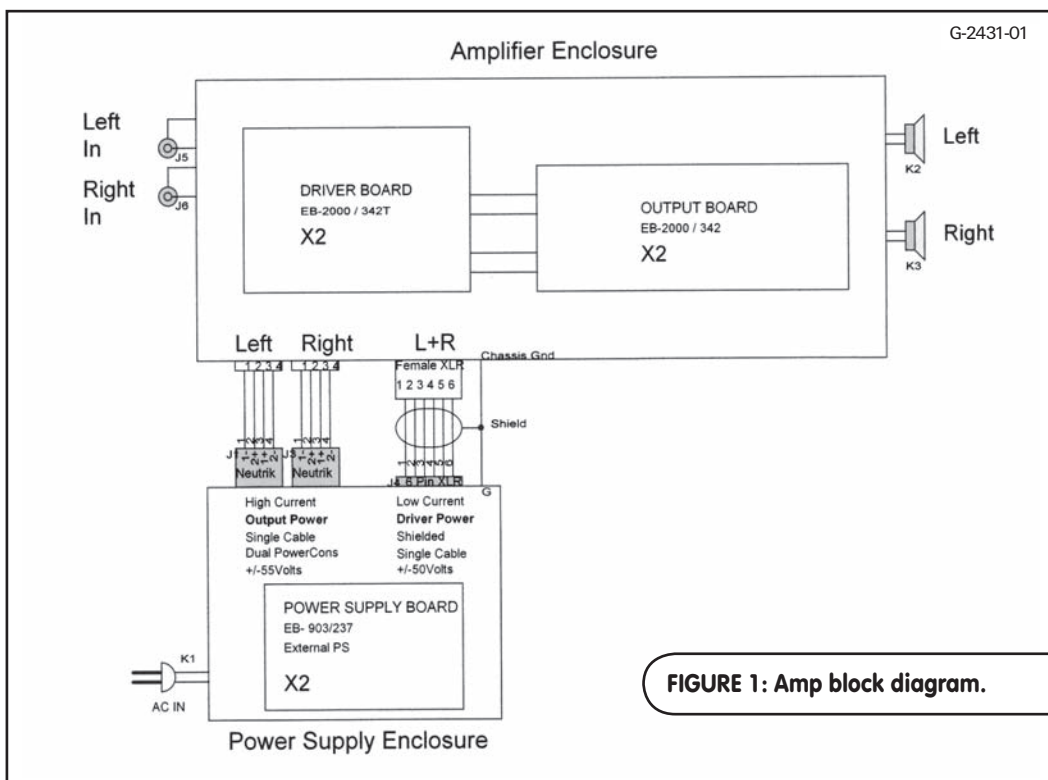

FIGURE 1: Amp block diagram.
The basis for this amp comes from Erno Borbely's All FET Class A Millennium Amp (borbelyaudio.com). Intended to be built as two monoblocks, it can also be constructed as either stereo or dual mono, which is how I chose to build it (**Fig. 1**). With an array of ways to purchase it (you can buy the full kit, just the PCB, or almost anything in-between), I went with the PCBs and the semiconductors only; used my own sources for resistors, caps, and transformers; and also built my own
back panel on Teflon spacers to isolate them (**Photo 11**). All GNDs (star Gnd) are tied to these tabs—one tab per channel. Power for driver and output sections enters the panel in the center (**Photo 12**). These consist of Neutrik four-pin Powercons (2), one per channel for output power (**Fig. 1**). They use heavy silver-plated contacts rated at 20A per contact, and are keyed as well as locking. Each cable carries ± 50 V, PSGND, and AMP-GND.